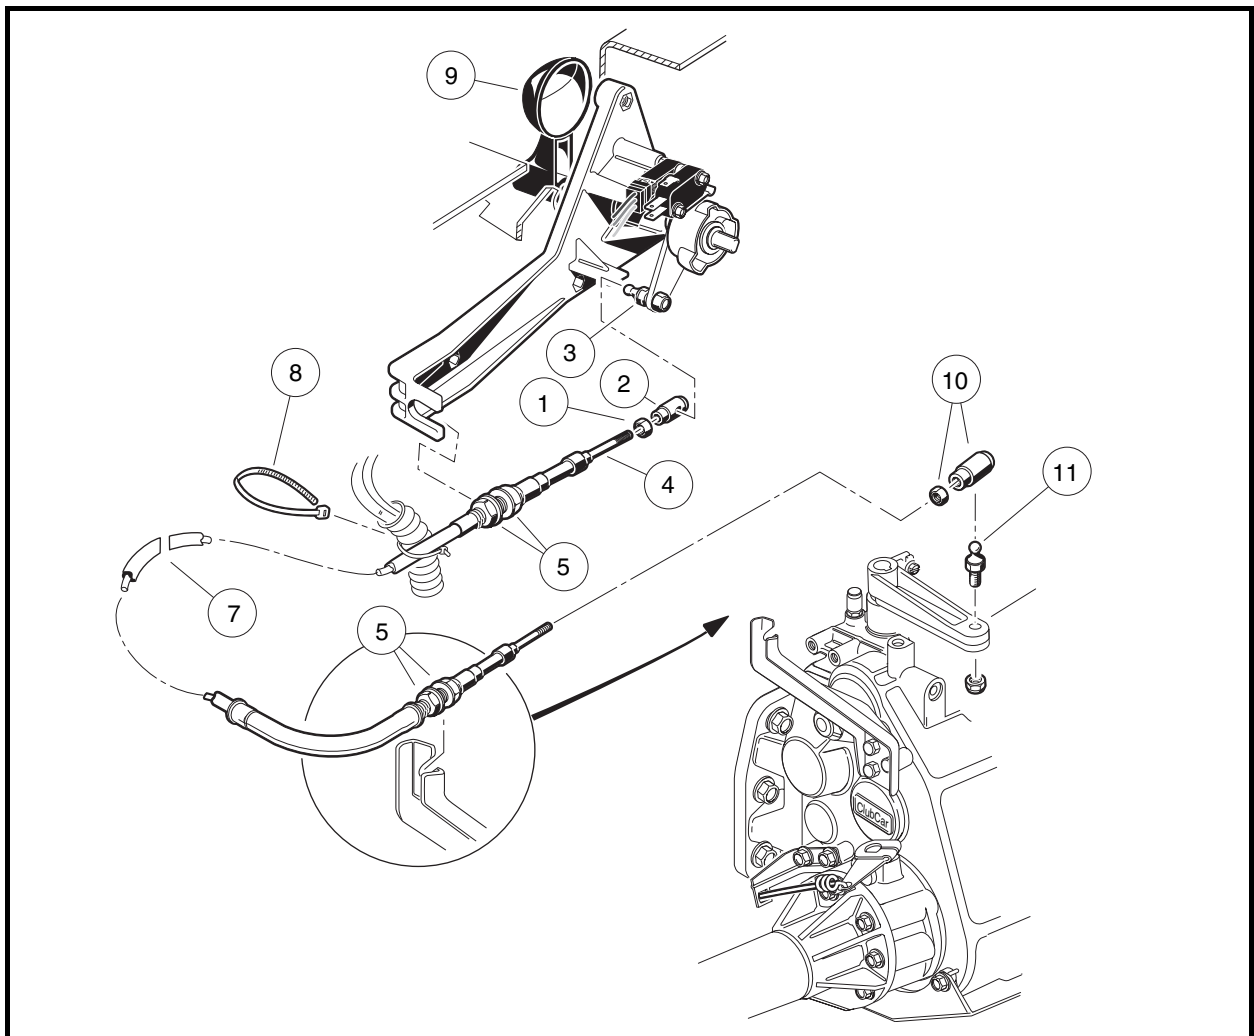

Figure 16-59 Forward/Reverse Shifter Cable
1. Remove the ball joint socket (2) from the Forward/Reverse shifter assembly ball stud (3) (**Figure 16-59, Page 16-24**).
2. Remove the ball joint socket (10) from the shifter arm ball stud (11) on the transaxle.
3. Loosen the retaining nuts (5) on both ends of the cable and remove the wire tie and cable.
2. Secure the cable with retaining nut (5) on each side of the shifter cable support bracket at the transaxle (**Figure 16-59, Page 16-24**) and tighten nuts to 22 ft-lb (29.8 N·m).
3. Secure the cable with retaining nut (5) on each side of the shifter cable support bracket at the Forward/Reverse assembly and tighten nuts to 22 ft-lb (29.8 N·m).
4. Install the ball joint socket (10) on the shifter lever ball stud (11) on the transaxle.
5. Install the ball joint socket (2) on the Forward/Reverse shifter assembly ball stud (3).
6. Install wire tie (8) to secure wire harness to cable at the support bracket near the Forward/Reverse shifter assembly. **See following WARNING.**
Place the shifter lever in the NEUTRAL position (straight up) (**Figure 16-58, Page 16-23**). For minor adjustments, the nut (1) may be loosened and the ball joint socket (2) rotated to get the proper adjustment (**Figure 16-59, Page 16-24**). See following **CAUTION**.
For major adjustments, the cable retaining nuts (5) must be loosened and adjusted. When the cable is properly adjusted, with the Forward/Reverse handle (9) (**Figure 16-59, Page 16-24**) in the NEUTRAL position, the shifter lever of the transaxle will also be in the NEUTRAL position (**Figure 16-58, Page 16-23**). Retighten nuts to 22 ft-lb (29.8 N·m).